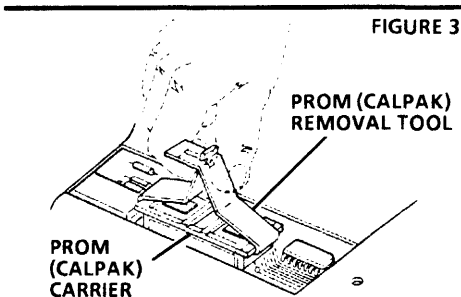

FIGURE 3
4. PROM (CALPAK) (if used) using removal tool shown in figure 3. Grasp the carrier by the narrow ends only. Gently rock the carrier from end to end while applying a firm upward force.